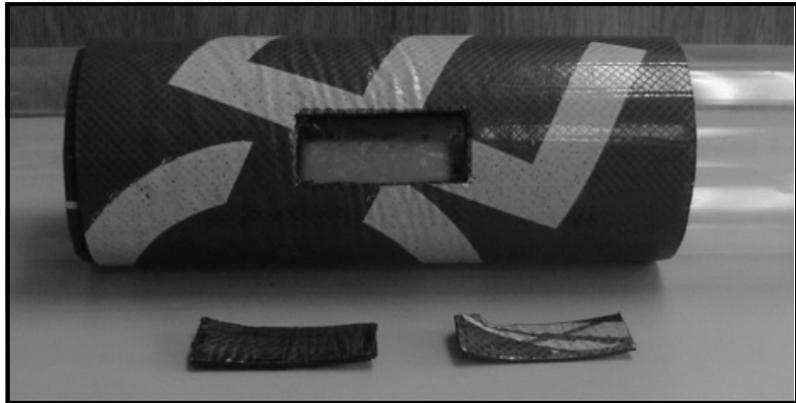

Figure 1-24: DMP-1 Material with Transducer Footprint Cut Out
8. Remove the fixture and transducer. Then use a utility knife to cut out the area under the transducer footprint, and peel the cut material off the pipe, as shown in Figure 1-24 below.